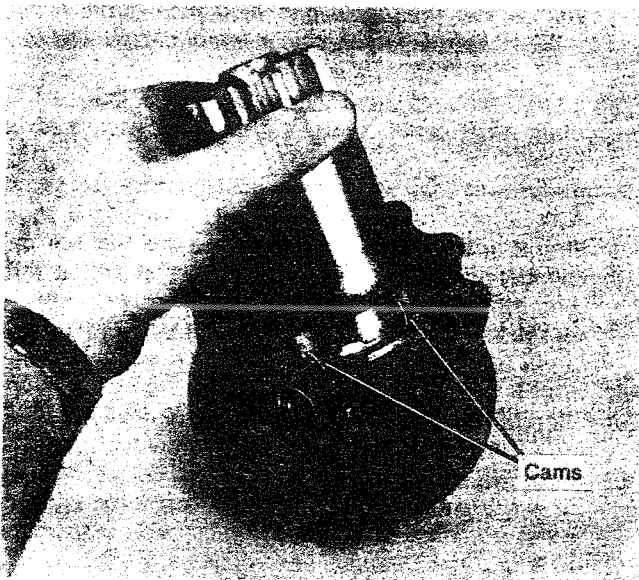

Figure 29
12. On MA and MB motors, with one hand pull the link screw out forcing the shift lever to swivel the cams out of the housing. Adjust the angle of the two cams so they both point in the same direction. Slide the drive assembly on the cams so the two cams are riding in the drive channel. See figure 29. Slide the drive assembly on the armature shaft and slide the shift housing towards the field ring to pass the armature shaft through the drive assembly.